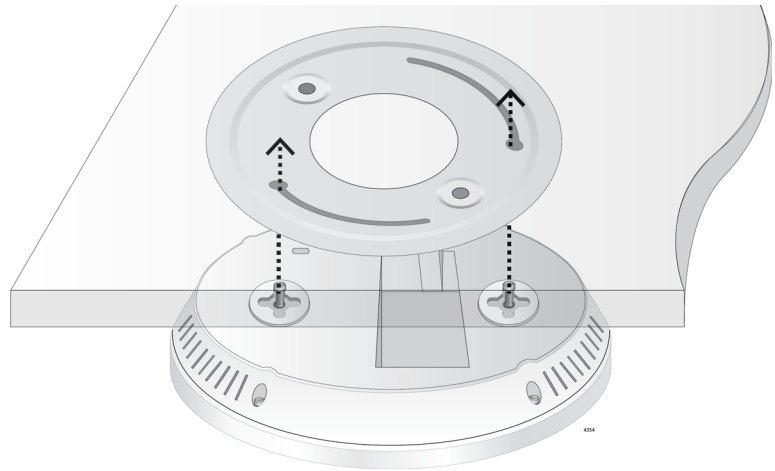

Figure 25. Installing the Access Point onto a Ceiling or Wall
12. Insert the two screws on the access point to the holes on the mounting base, as shown in Figure 25.